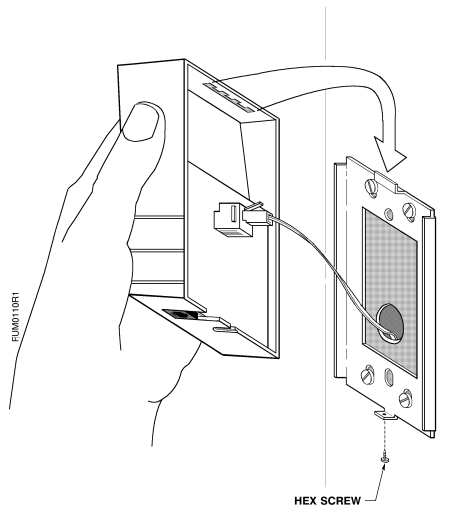

Figure 5. Placement of Panel on Mounting Plate.
5. Place the ODP onto the mounting bracket so that the flange engages into the slot located inside the top of the panel housing (Figure 5).
6. Insert hex screw into the bottom tab of the mounting plate to secure the bottom of the ODP (Figure 5).